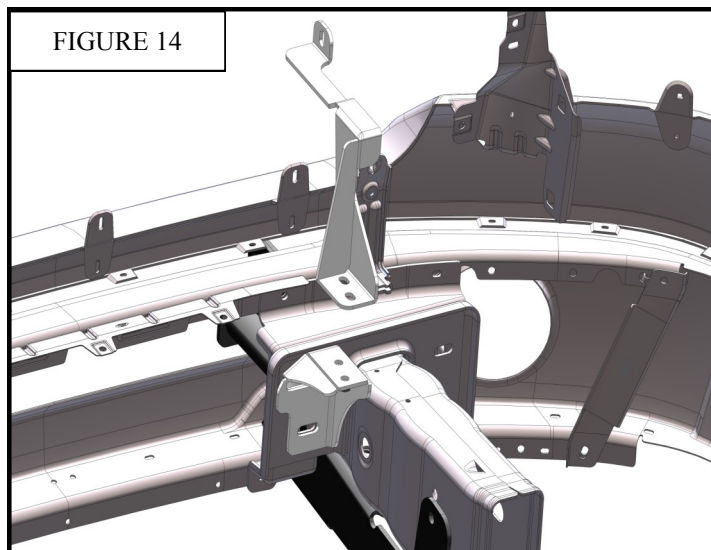

FIGURE 14
10. Attach the upper support bracket (top) to the upper support bracket (bottom) using four M10 hex head bolts (ITEM 27), four M10 flat washers ( ITEM 28), and four M10 lock washers (item 29). Do not fully tighten at this time. ( FIGURE 14)